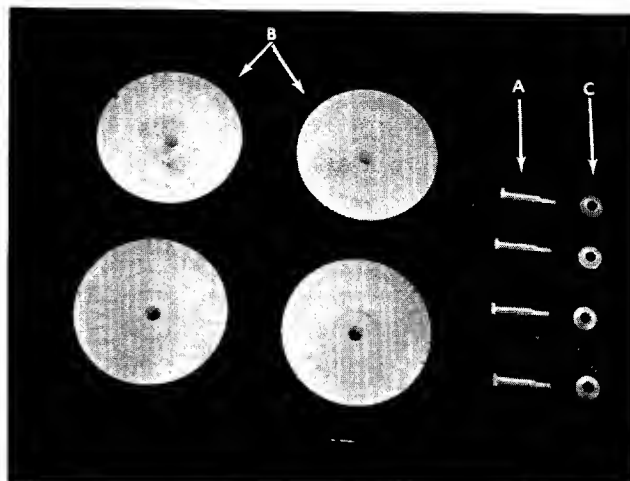

FIGURE 1
6. Place shoulder bolt (A) through wheel (B). See figure 1.